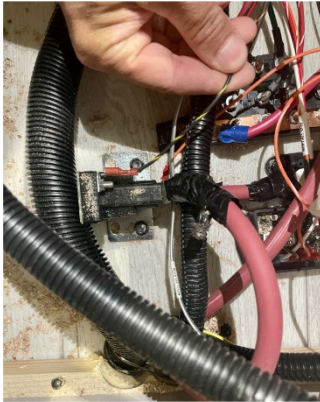

Fig. 1
- 1) Locate isolator solenoid; ensure orange/white wire is in bottom battery terminal, and the red/white wire is on top battery terminal. A black/yellow wire should be on the trigger post of the solenoid. Figs. 1 & 2